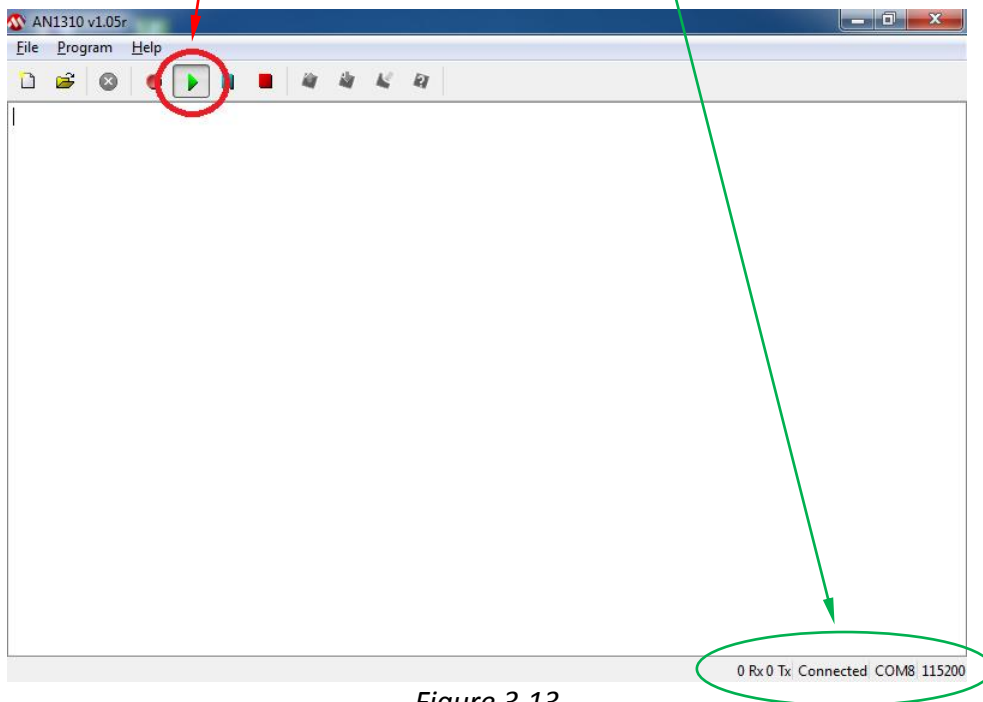

Figure 3.13
2. Press the green **Run Mode** button on the bootloader screen (Figure 3.13). At the bottom right hand side of the screen the **“Connected”** status will appear as well as the **COM Port number**.